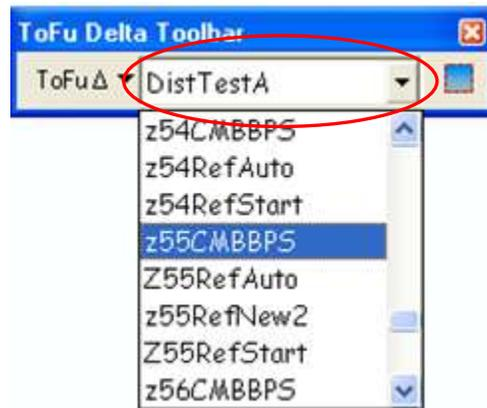

Figure 7-3. ToFuΔ's Management Unit selection drop-down menu.
The second down-arrow on the toolbar is the Management Unit selection drop-down menu, which allows the user to select a Management Unit (MU) once the project is set up (fig. 7-3). Management Units can be as large as a LANDFIRE map zone or as small as an initial fire incident that a user would like to calibrate and analyze.